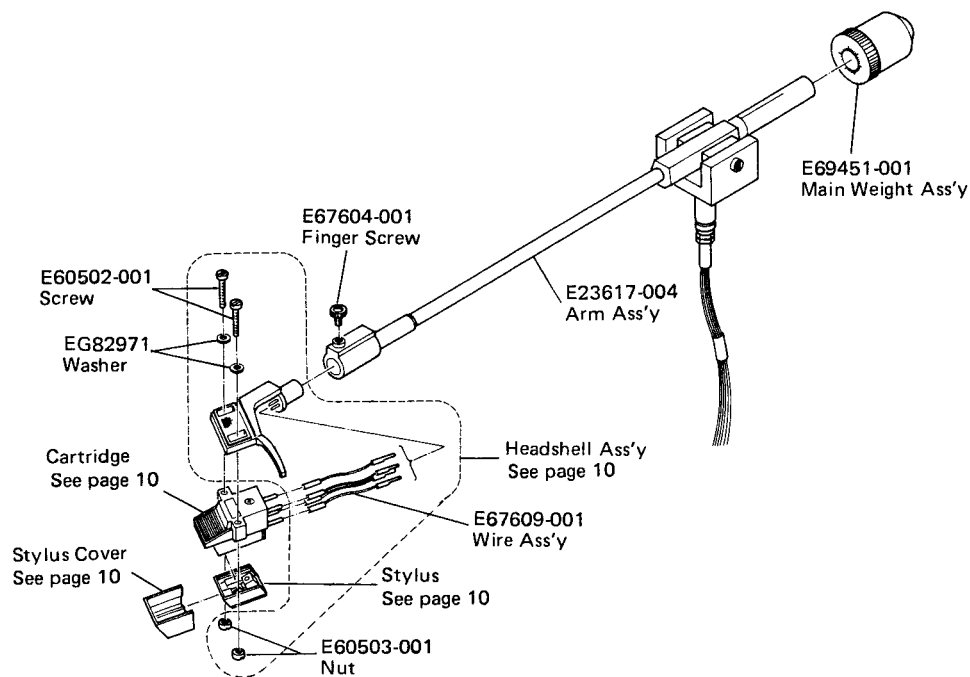

Fig. 15
* See Fig. 15 when placing an order.